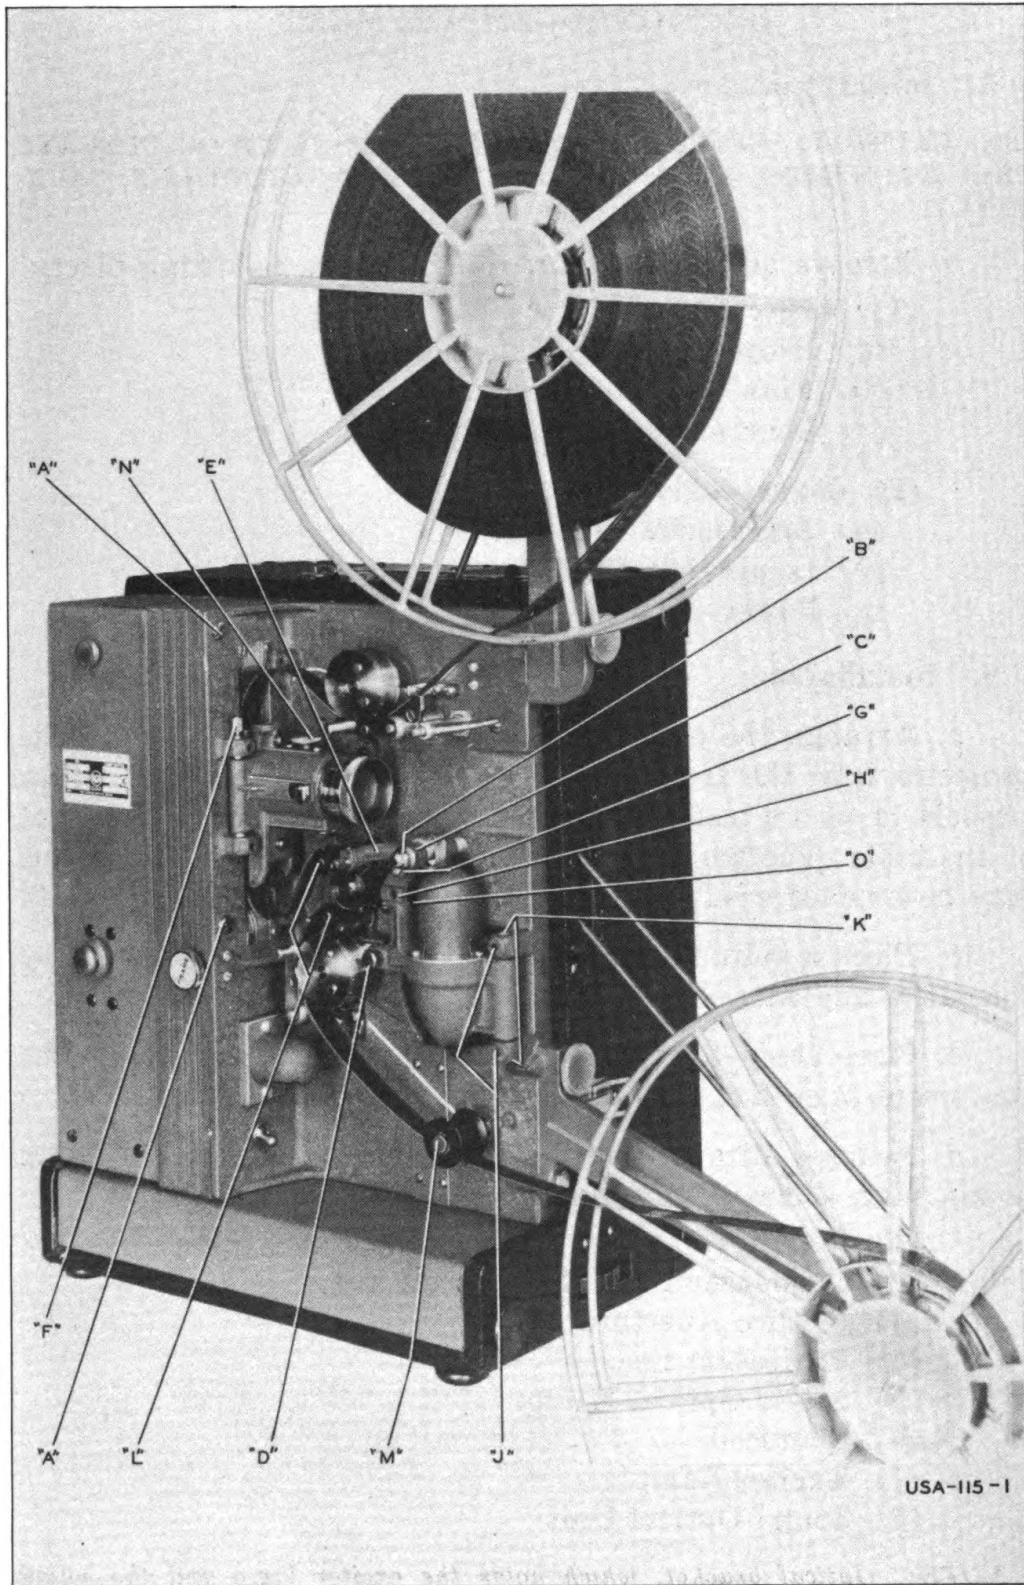

Figure 5—Projector—Operating Side
*g.* Install the upper and lower reel arms on the projector as shown in Figure 5.
*h.* Open the latches that hold the spring belts inside the case, pull the belts out and place in position around the reel pulleys on the respective reel arm. See Figure 5. Check that belts are seated properly in the pulleys. Test for freedom of movement by rocking each belt gently back and forth. If tight, trip take-up rewind lever and try again. If still tight, investigate and correct threading.
*f.* Set the "Take-up and Rewind" lever in the "Take-up" position. See Figure 5.
(*c*) Lift the sound drum pressure roller arm and pass the film around the sound drum, threading over each of the guide rollers as indicated in Figure 5. Be sure to leave a loop of film of the size indicated by the white line between the lower part of the film gate and the upper sound drum guide roller. Lower the pressure roller arm in place, take care that it does not "snap" against the sound drum.